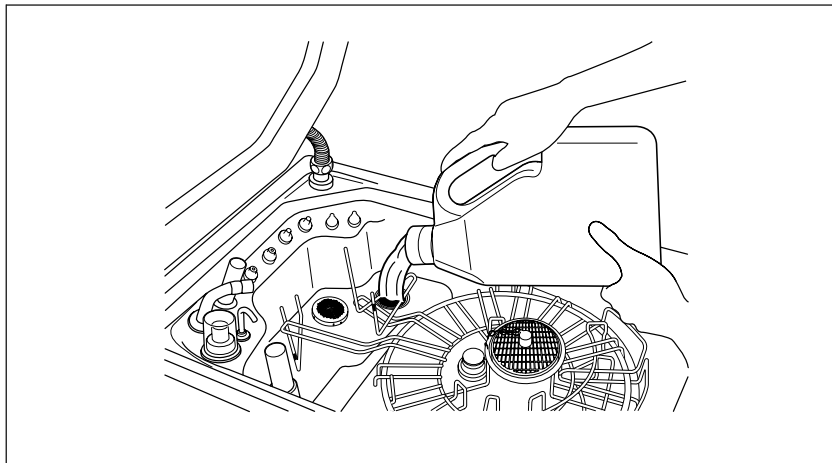

Figure 7.70
6. Slowly pour the disinfectant solution to the drain port into the cleaning tub (see Figure 7.70).